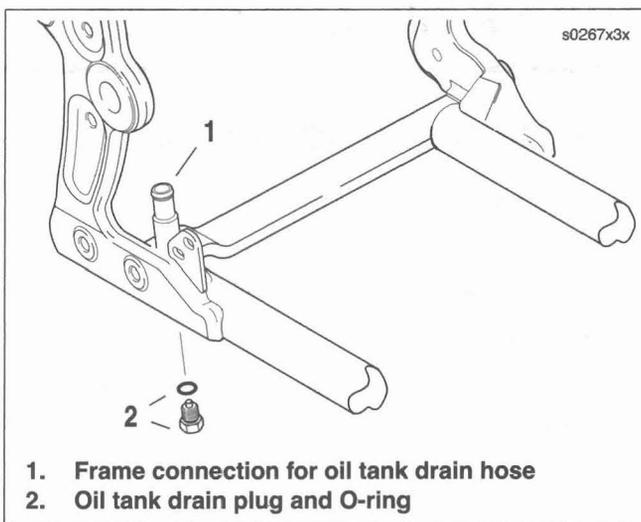

Figure 1-3. Oil Tank Drain Plug
3. See Figure 1-3. Remove the engine oil drain plug with O-ring (2). Allow oil to drain into a suitable container.
6. See Figure 1-3. Install oil tank drain plug.